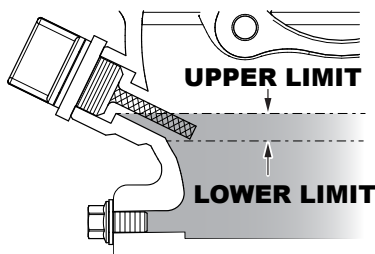

Figure 6. Engine Oil Dipstick (Oil Level)
4. If the oil level is low (See Figure 6), fill to the edge of the oil filler hole with the recommended oil type (Table 3 and Table 6). Maximum oil capacity is 1.80 quarts (1.7 liters).